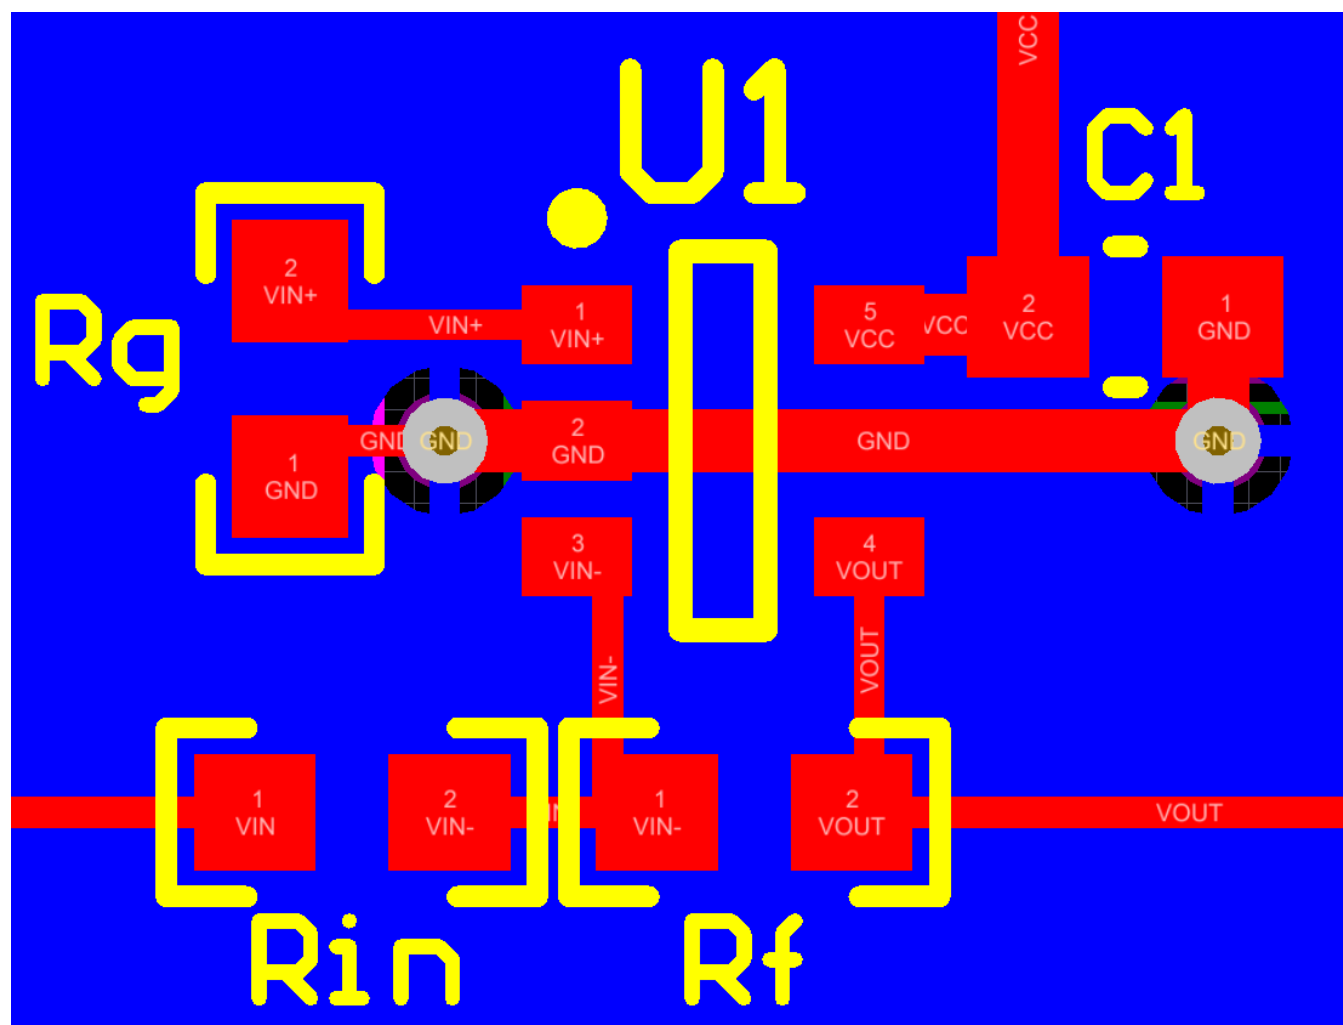

Figure 15. PCB Layout Example
- Place the external components as close to the device as possible. As shown in Figure 15, keeping RF and RG close to the inverting input minimizes parasitic capacitance.